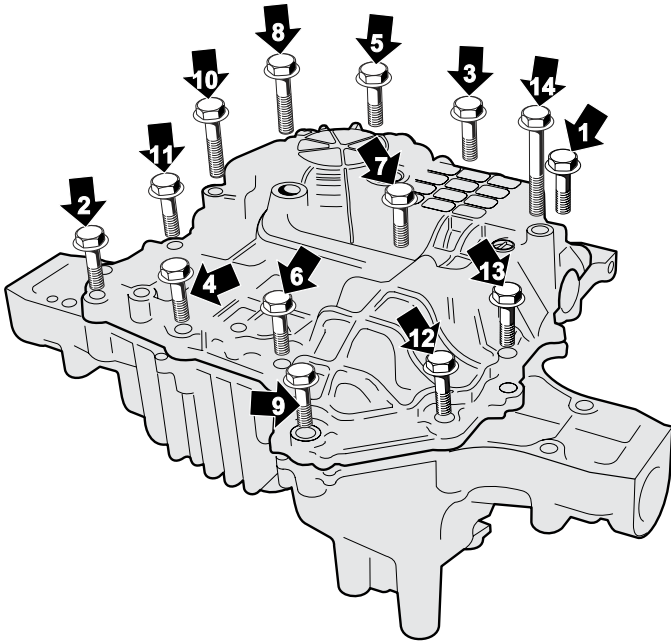

Fig. 46, Torque Sequence for Upper & Lower Case
- Install (1) M8x75 Bolt (**arrow 14**), (2) M8x40 Bolts (**arrows 8 & 10**) and (11) M8x30 Bolts (**arrows 1-13**) to Lower Case/Upper Case. (Fig. 46)
- Torque Bolts (12 mm wrench) utilizing the tightening sequence diagram. (Fig. 46)